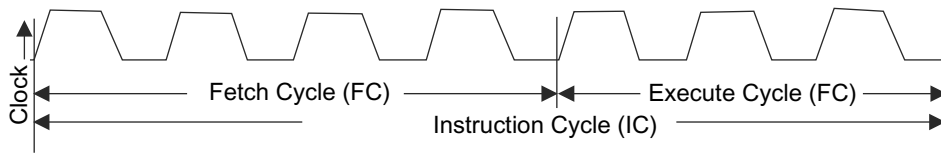

Fig. 3.5 Instruction cycle
✓ **Instruction Cycle (IC)** This is defined as the total time required executing an instruction completely. The instruction cycles consist of a fetch cycle and execute cycle as depicted in Fig. 3.5. In a Fetch Cycle (FC), the microprocessor fetches the opcode from the memory. After the opcode fetch operation, the necessary steps are carried out to get the operand, if required, from the memory and then perform the specific operation specified in an instruction. This operation is called Execute Cycle (EC). The time period of Fetch Cycle (FC) is a fixed but the time required to execute an instruction or time period of Execute Cycle (EC) is variable which depends on the type of instructions. The total time required to execute an instruction is the summation of the time period of fetch cycle and execute cycle. This can also be written as